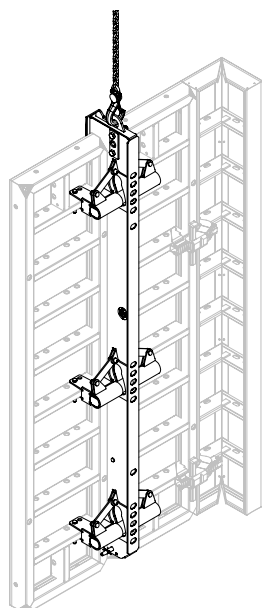

Fig. A17.03
3. Transport panel unit to place of use and attach to the internal formwork with the Alignment Couplers BFD. (Fig. A17.03)